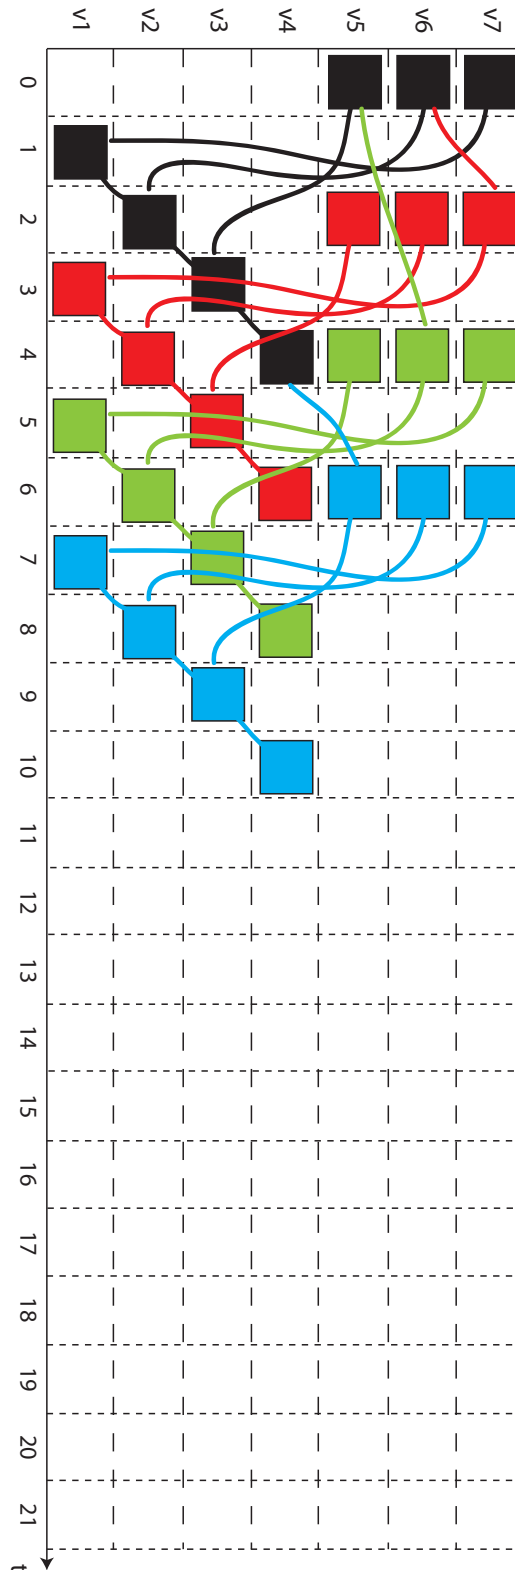

Abbildung 36: Scedule with loop folding
- a valid schedule of operations v_i for 4 iterations in the form of a drawing. For the purpose, use Figure 36. Highlight on the drawing the different iterations and dependencies (e.g. by writing or marking).
See Figure 36.